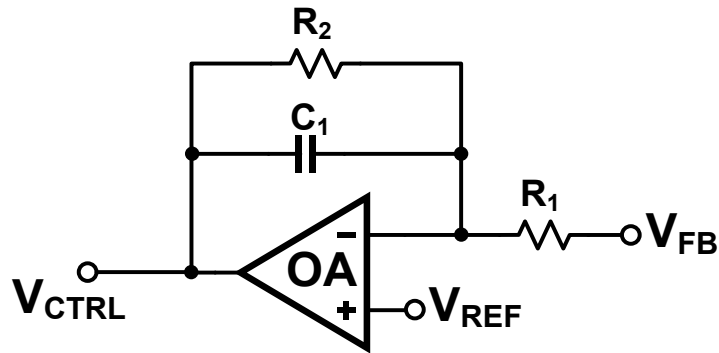
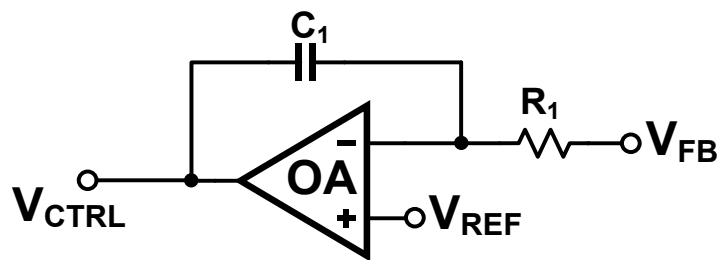

Figure 2-7 First order opamp-RC filter as type-1 compensator
Figure 2-8 Opamp-RC integrator as type-1 compensator
Type-1 compensation uses a single pole low pass filter or integrator such that the UGB of the loop is much less (5-10 times) of the double pole frequency of LC filter. Figure 2-7 shows a first order opamp-RC filter used as type-1 compensator.
**Exercise 2-3** Draw the bode plots of lowpass filter and integrator shown in Figure 2-7 and Figure 2-8, respectively. Find the expression for unity gain bandwidth (UGB) for the two circuits.